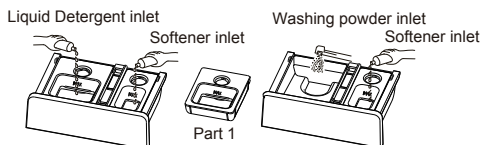

Figure 1 (HWM100-316S6, HWM120-316S6)
- When washing powder is added, remove part 1 as shown in figure 1 (HWM100-316S6, HWM120-316S6)